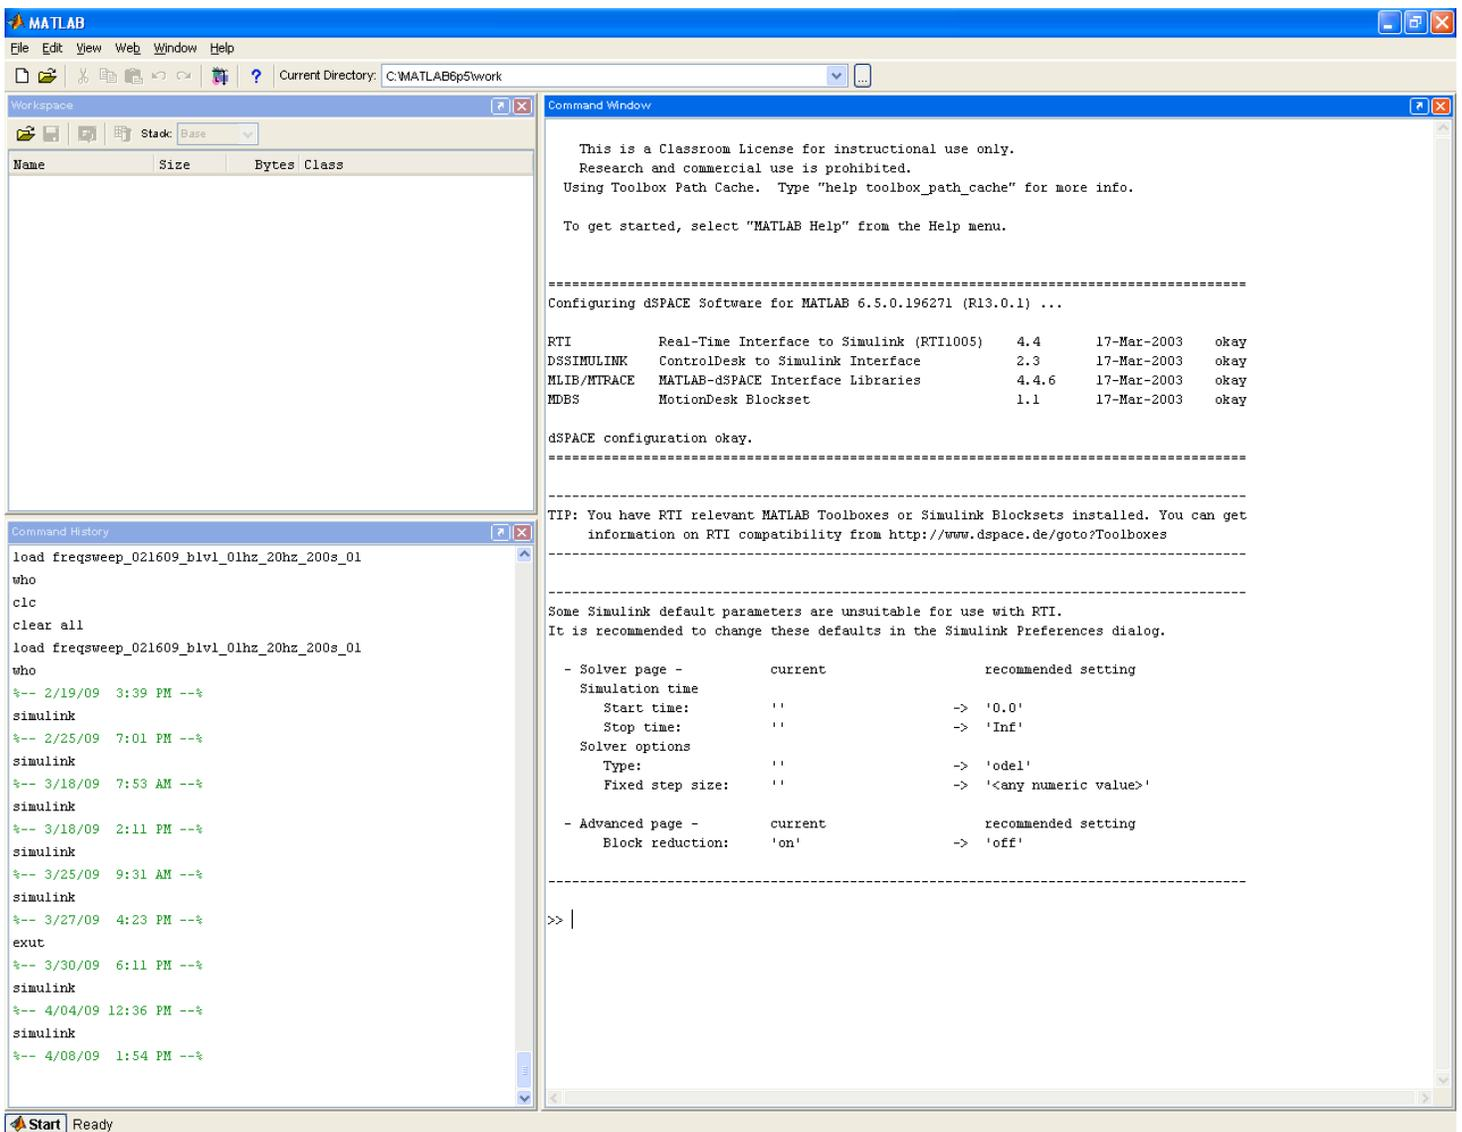

Figure 4-26: Screenshot of Matlab display window at startup
- 2) After Matlab loads, check the display in the “Command Window” and make sure the dSpace configuration is “okay” and that the “RTI” and Simulink does not list any errors. See Figure 4-26.